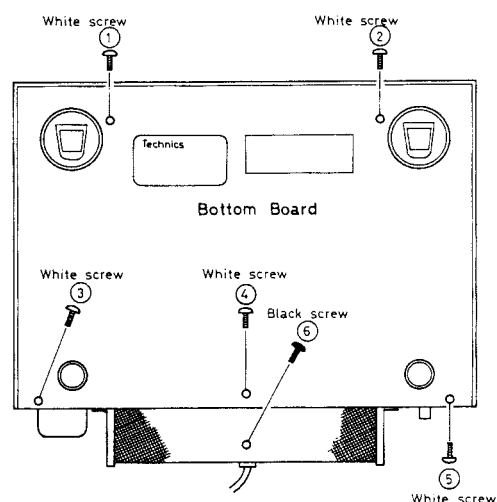

Fig. 1
1. Turn the set upside down and remove 5 setscrews (① ~ ⑥ in Fig. 1) on the bottom board.